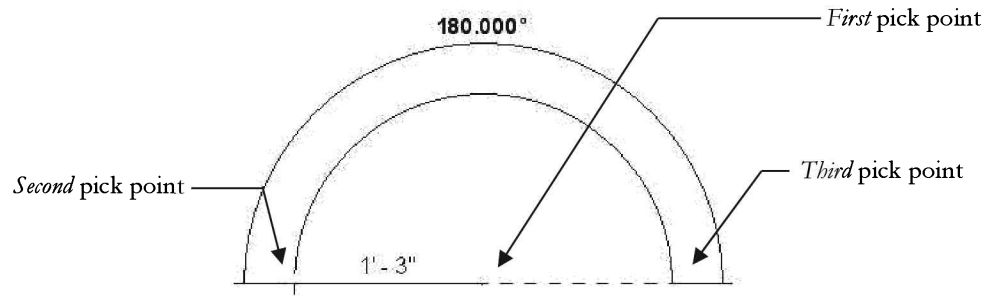

FIGURE 4-2.12 Pick points for Arc command
38. *Third pick:* Move the cursor to the right until the arc is 180 degrees and snapped to the horizontal again (Figure 4-2.12).